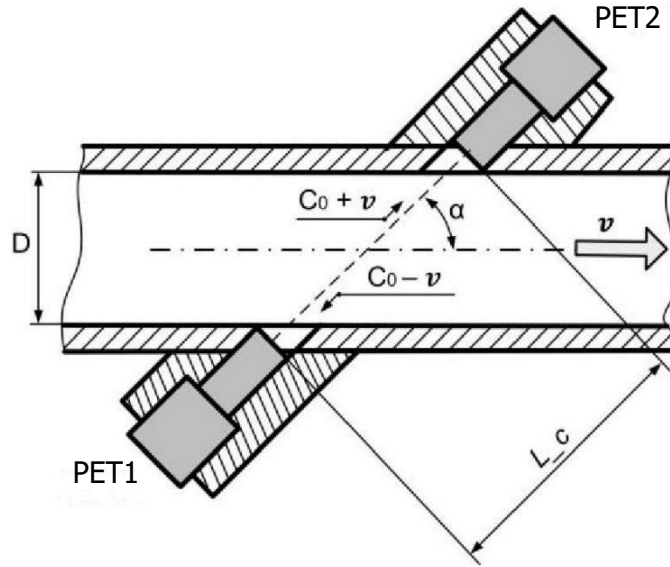

Figure 3.2. Measured metrological dimensions
3.3.1 Operation of the flowmeter is based on the method of direct measuring the transit time of ultrasound in a liquid from one PET to another (Figure 3.2).
$\alpha$  is angle in accordance with Figure 3.2, in degrees.